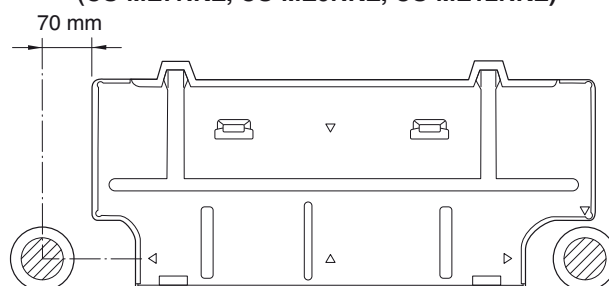

Fig. 9a
- (1) Place the rear panel from the indoor unit on the wall at the location selected. Make sure the panel is horizontal, using a carpenter's level or tape measure to measure down from the ceiling. Wait until after cutting the hole before attaching the rear panel to the wall.
- (2) Determine which side of the unit you should make the hole for tubing and wiring. (Fig. 9a or 9b)
In the case of left-rear tubing, use the measurement points from the edge of the rear panel for precise placement of the hose outlet. (Fig. 9a or 9b)